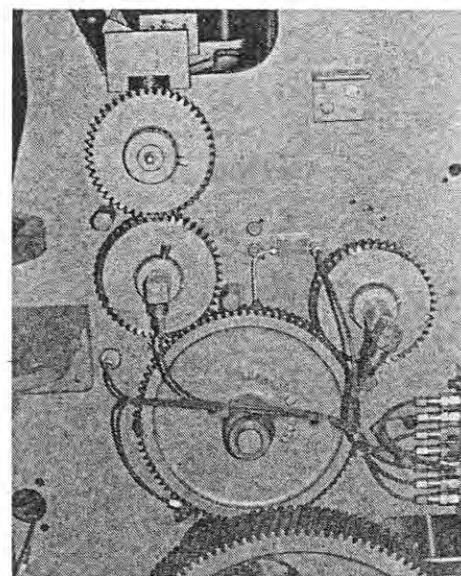

Fig. 56
2. Apply grease to the face wheels (Figure 56) and all roller chain drives using a paint brush. (Refer to section 1.2 for lubricants.)